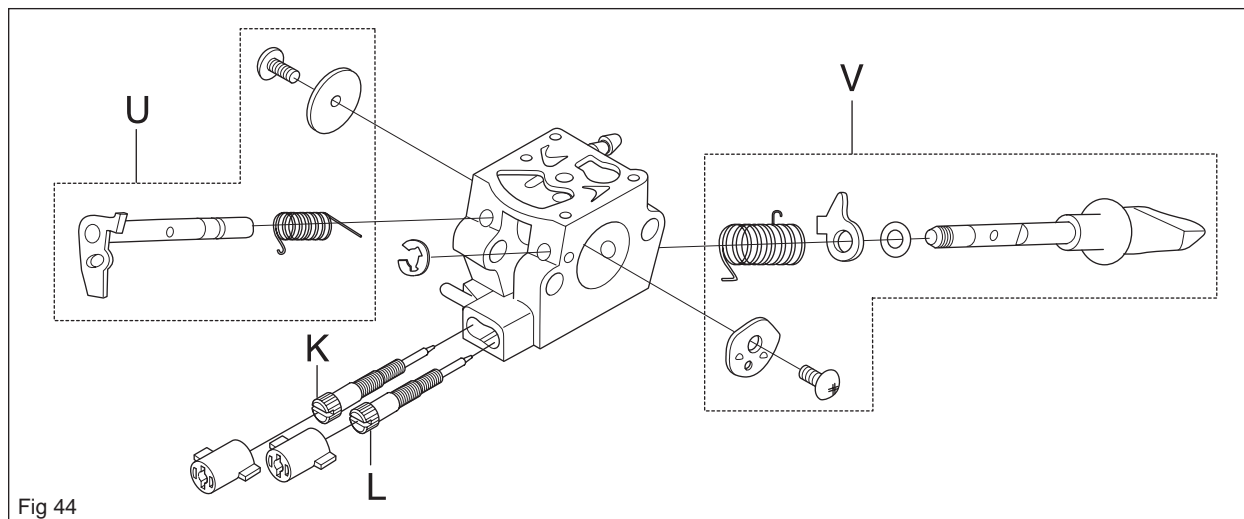

Fig 44
Dismantle high-speed screw L and low-speed screw K, see figure 44.
If necessary, dismantle throttle valve V and choke valve U and remove the shafts with lever arms and springs, see figure 44.
5. That the tips of the high L and low K speed needles are not damaged, see figure 44.